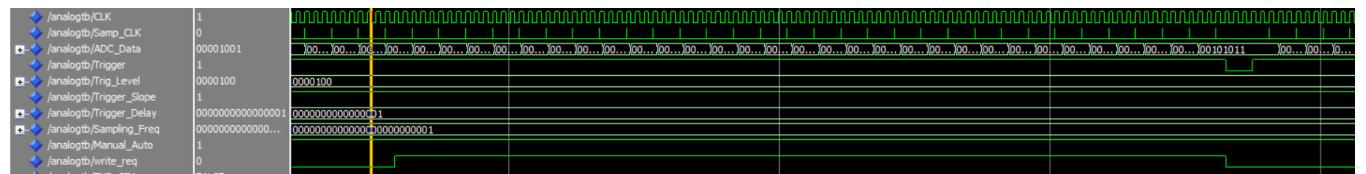

Figure 92: Simulation when signal has positive slope and user sets positive trigger slope
When the trigger level is increased to 0b1011 (11), the write request only becomes active the trigger delay number of clocks after the signal passes the higher trigger level. In comparison to the first simulation case (Figure 92) considered with all same parameters except trigger level, it is obvious that the write request becomes active later.